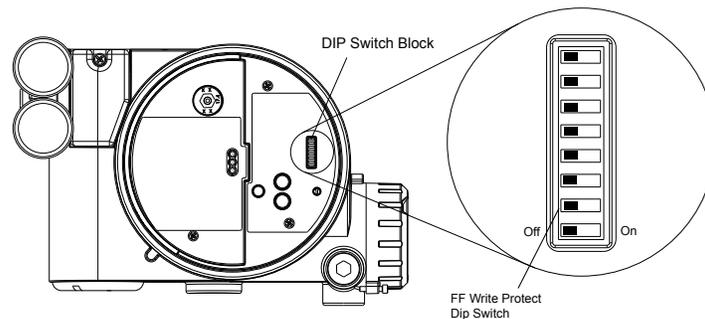

Figure 6.1 Write-protect DIP Switch Location on Main PCB Cover
5. Set write-protect dip switch to the appropriate position on the electronics board. See Figure 6.1 and Table 6.1.